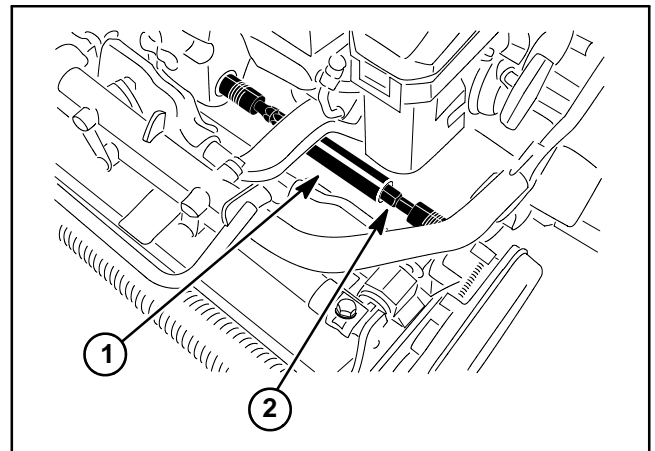

Figure 3
4. Slide the telescoping coupler off the cutting unit hex shaft (Fig. 3).